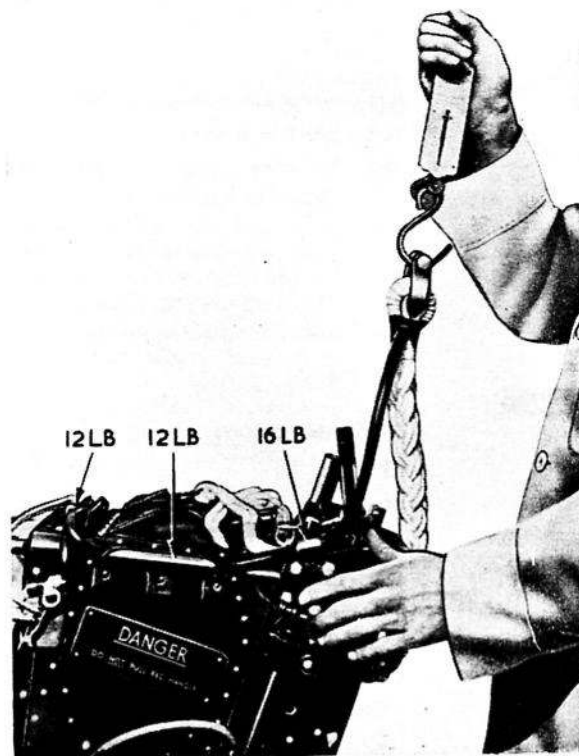

Fig. 16. Testing the lifting lines
- (1) Disconnect the drogue withdrawal line from the drogue shackle, and disconnect the drogue shackle from the scissor shackle.
- (2) Connect a spring balance to the drogue shackle and pull upwards. The lifting lines should not pull out of the first clip until the scale registers 16 lb. as indicated in fig. 16